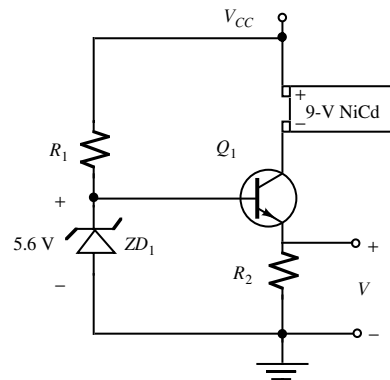

Figure P10.25
- 10.25** The circuit shown in Figure P10.25 is a 9-V battery charger. The purpose of the Zener diode is to provide a constant voltage across resistor R_2 , such that the transistor will source a constant emitter (and therefore collector) current. Select the values of R_2 , R_1 , and V_{CC} such that the battery will be charged with a constant 40-mA current.